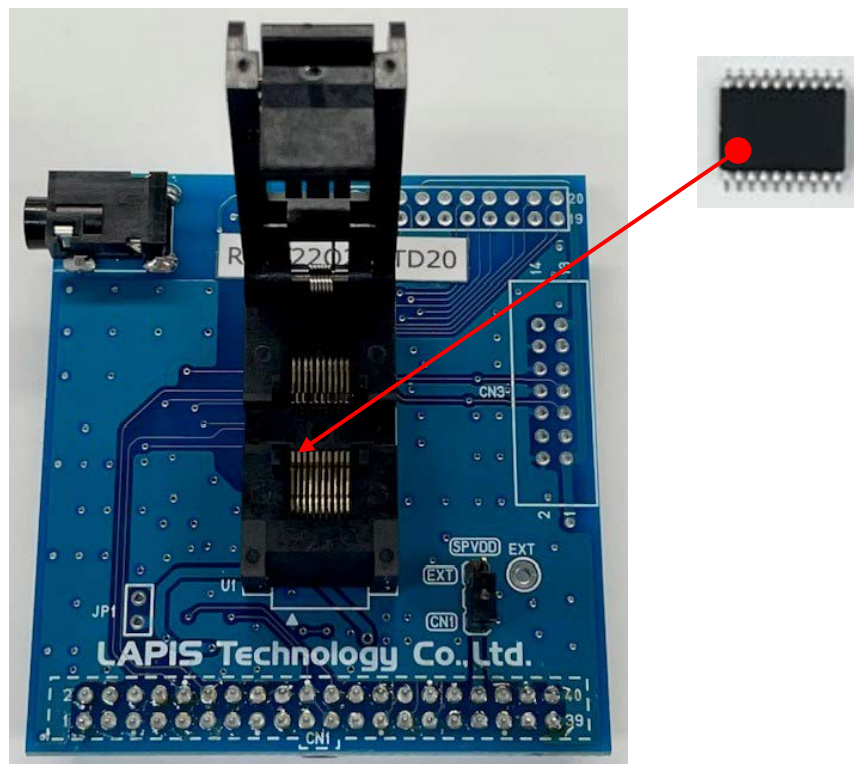

Figure 1 Outline Diagram
- Turn off the power when loading Speech Synthesis LSIs into the RB-S22Q234TD20. Pin 1 is the position of the board silk ▲ at the bottom left with respect to the socket opening. The Figure 1 shows the setting directions of Speech Synthesis LSIs.